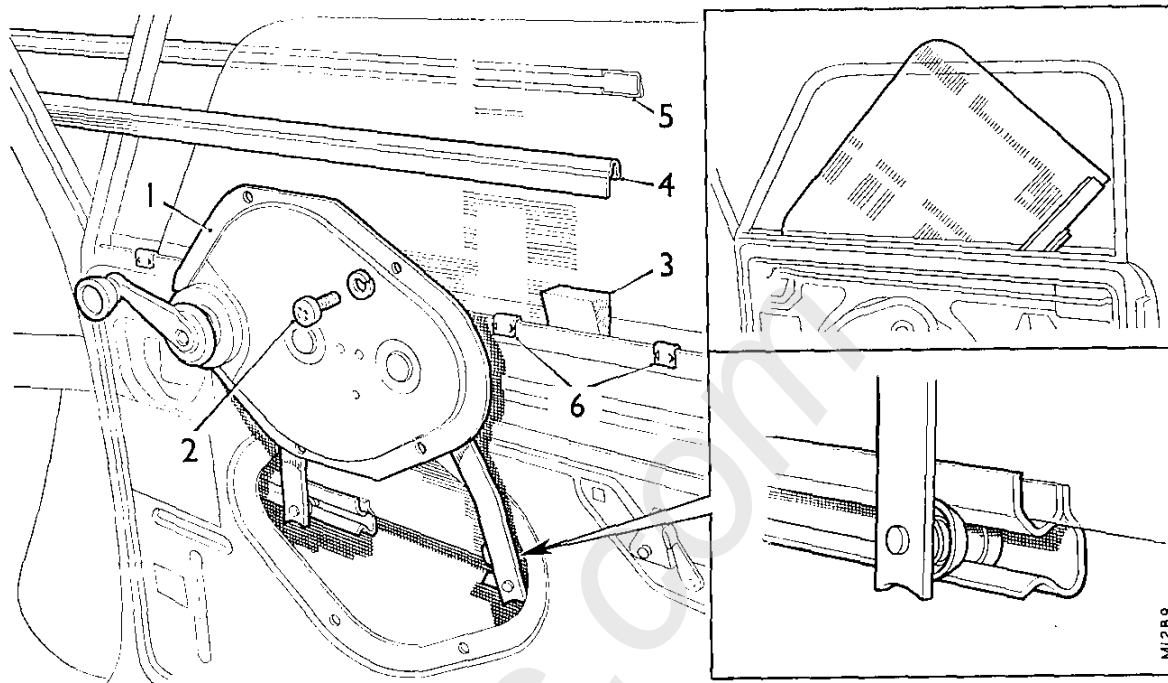

Fig. Rb.8
- (1) Remove the interior release handle, the window regulator handle, and the door trim panel. Pull off the adhesive sealing strips where necessary.
- (2) Remove the outer and inner waist rail finishers (Fig. Rb.8).
- (3) Remove the regulator assembly securing screws and use the regulator handle to raise the door glass approximately one-half of its travel (Fig. Rb.8), and use a wooden wedge or block to maintain this position whilst removing the regulator.
- (4) Lever the regulator assembly slightly away from the door panel and turn the regulator handle until the arms are in the vertical position (see Fig. Rb.8). The regulator arms can now be disengaged from the glazing channel by moving the regulator towards the front of the door until the rear arm is free and then moving it rearwards to release the other arm.
- (5) Release the wedge on the door glass, turn the glass as shown in Fig. Rb.8 and remove it from the door.
- (6) Reverse the removing procedure, with particular attention to the following instructions.
- (7) When refitting the door glass, ensure that it is located in the glazing channels and wedge it in the position shown in Fig. Rb.8 to facilitate engagement of the regulator arms. Apply sealer around the edge of the regulator plate.
- (8) Ensure that the waist rail securing clips are equally spaced before refitting the finishers.
- (9) When refitting the inner waist rail finisher, butt the forward end against the glazing channel rubber seal before attempting to refit the remainder in position.
- (10) Refit or fit new adhesive sealing strips.